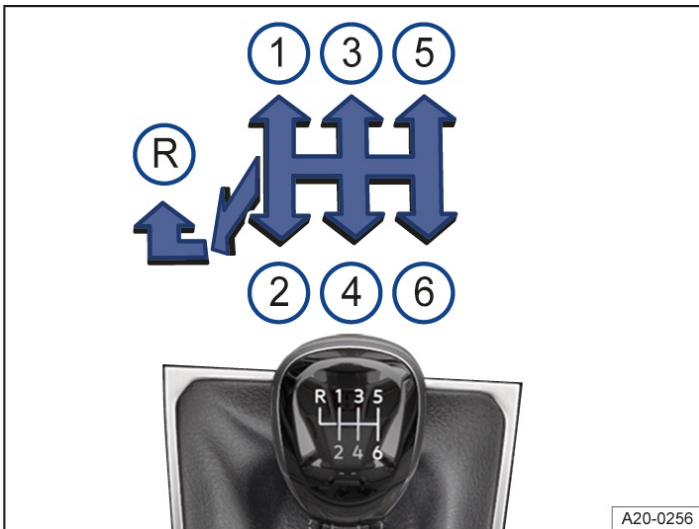

Fig. 1 Gear shift pattern for 6-speed manual transmission.
2. Move the gearshift lever into the preferred position → *fig. 1* ①.
3. Push the gearshift lever all the way to the left and then forward into the reverse gear position → *fig. 1* ②.